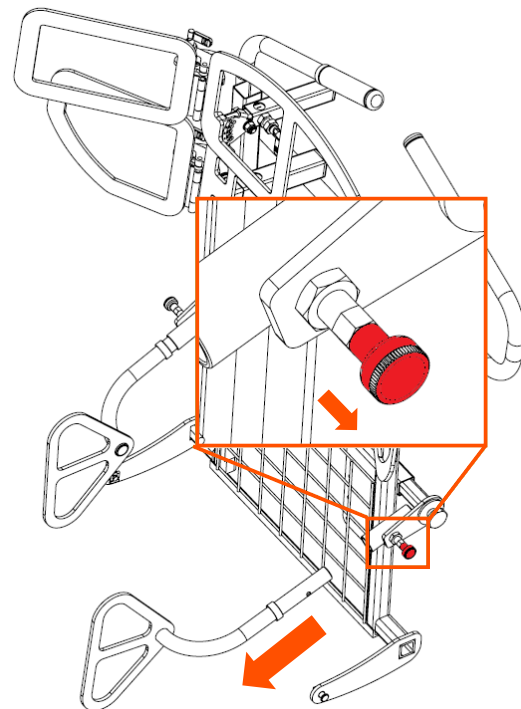

FIGURE 27
3. Removing the external laterals - lift the lock plunger shown in red in Figure 27 and remove the external laterals. To refit, lift the lock plunger and slide the external laterals into position. Release the lock plunger and move the external lateral in and out slightly to ensure the lock plunger engages.